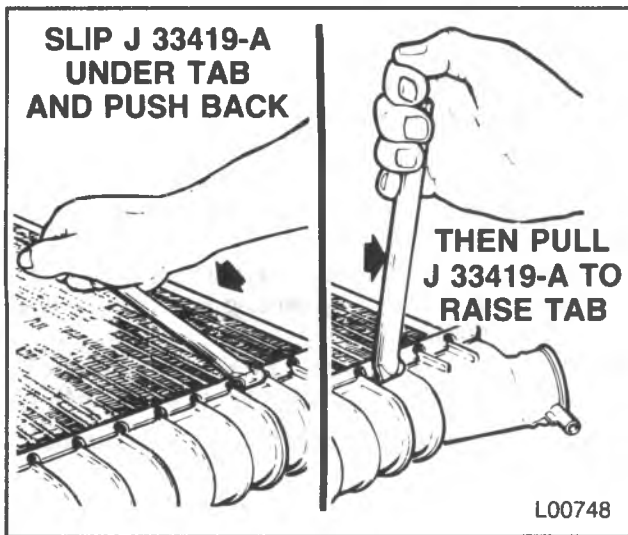

Figure 35 — Opening the Clinch Tabs
1. Pry open the clinch tabs, except those under the inlet, outlet, and filler necks using J 33419-A or a screwdriver (figures 35 and 36). Lift the tabs only enough to allow removal.